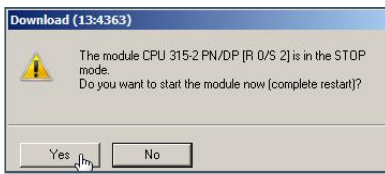

Figure 40: Activate the CPU unit
- 4) Click **Yes** to start the module completely (see: Figure 40: Activate the CPU unit).